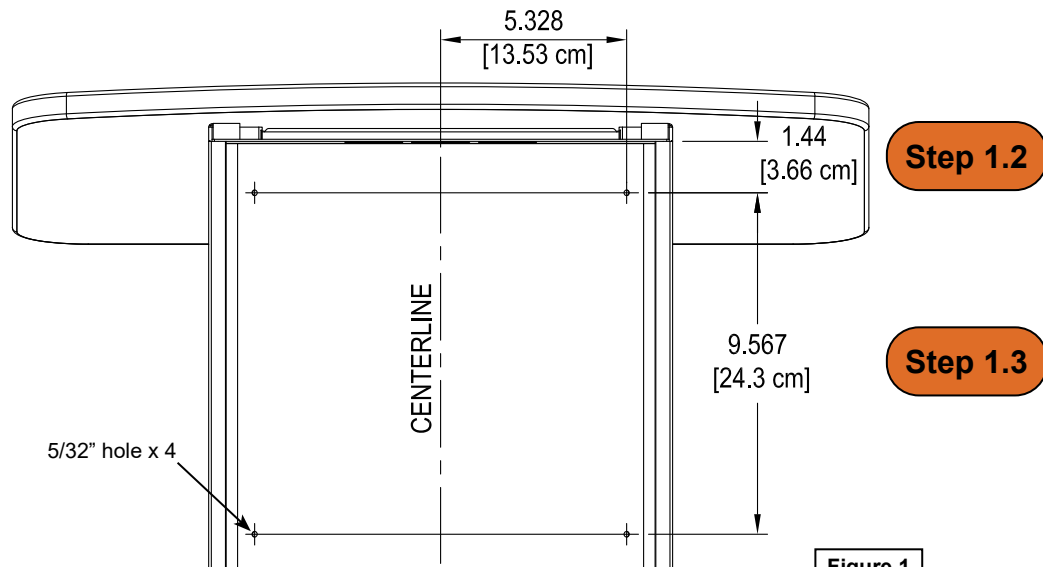

Figure 1
1. Using a pencil and measuring tape, measure out and mark a centered vertical line on the audience-side panel. **Figure 1.** Use two points (one on top, one on bottom) to establish the line-this will provide the most accuracy.
1. Place masking tape on the laminate at the (4) hole locations.
2. Carefully drill through the audience-side panel at the (4) hole locations using a 5/32" drill bit. **Figure 1.**